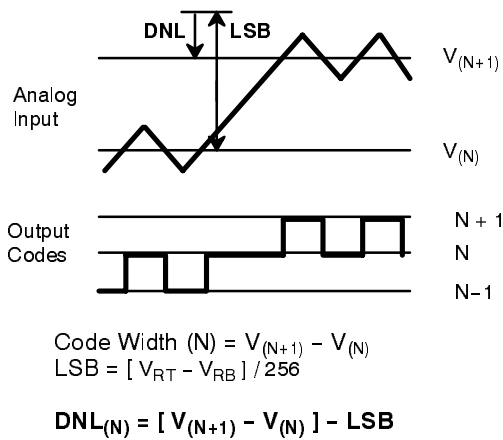
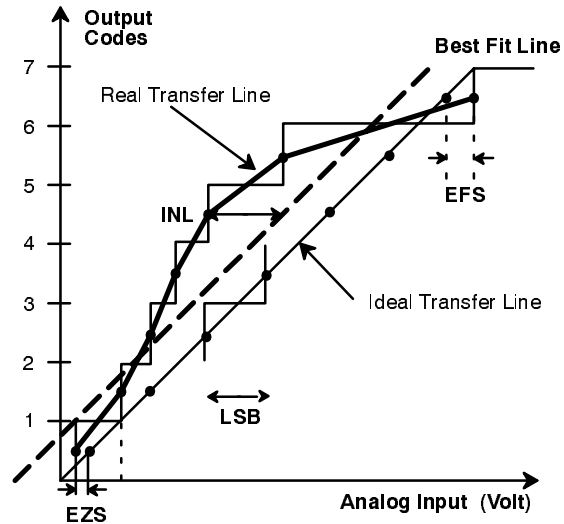

Figure 2. DNL Measurement
Figure 3. INL Error Calculation
- ¹ Tester measures code transitions by dithering the voltage of the analog input (V_{IN}). The difference between the measured and the ideal code width (V_{REF}/256) is the DNL error (Figure 2.). The INL error is the maximum distance (in LSBs) from the best fit line to any transition voltage (Figure 3.). Accuracy is a function of the sampling rate (FS).